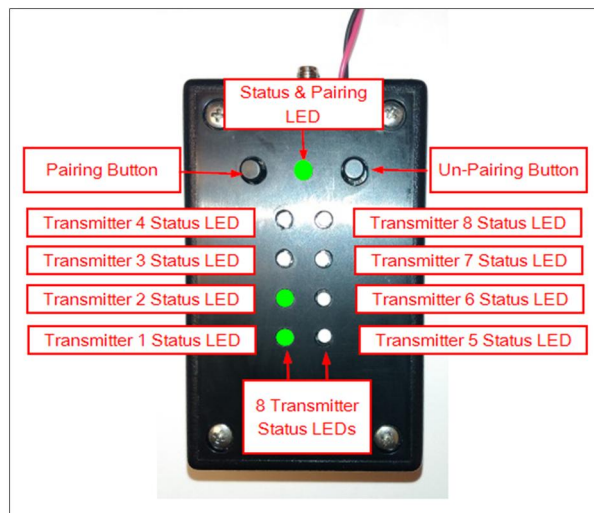

Figure 21 - Receiver pair status LEDs and buttons
3. Turn the screw terminal clockwise to secure the cable (see Figure 21). Secure the protected object (i.e. radioactive material container) with the optic fiber cable, and then secure other end of the fiber optic loop into the other screw terminal. Either end of the fiber optic loop can be installed in either screw terminal.